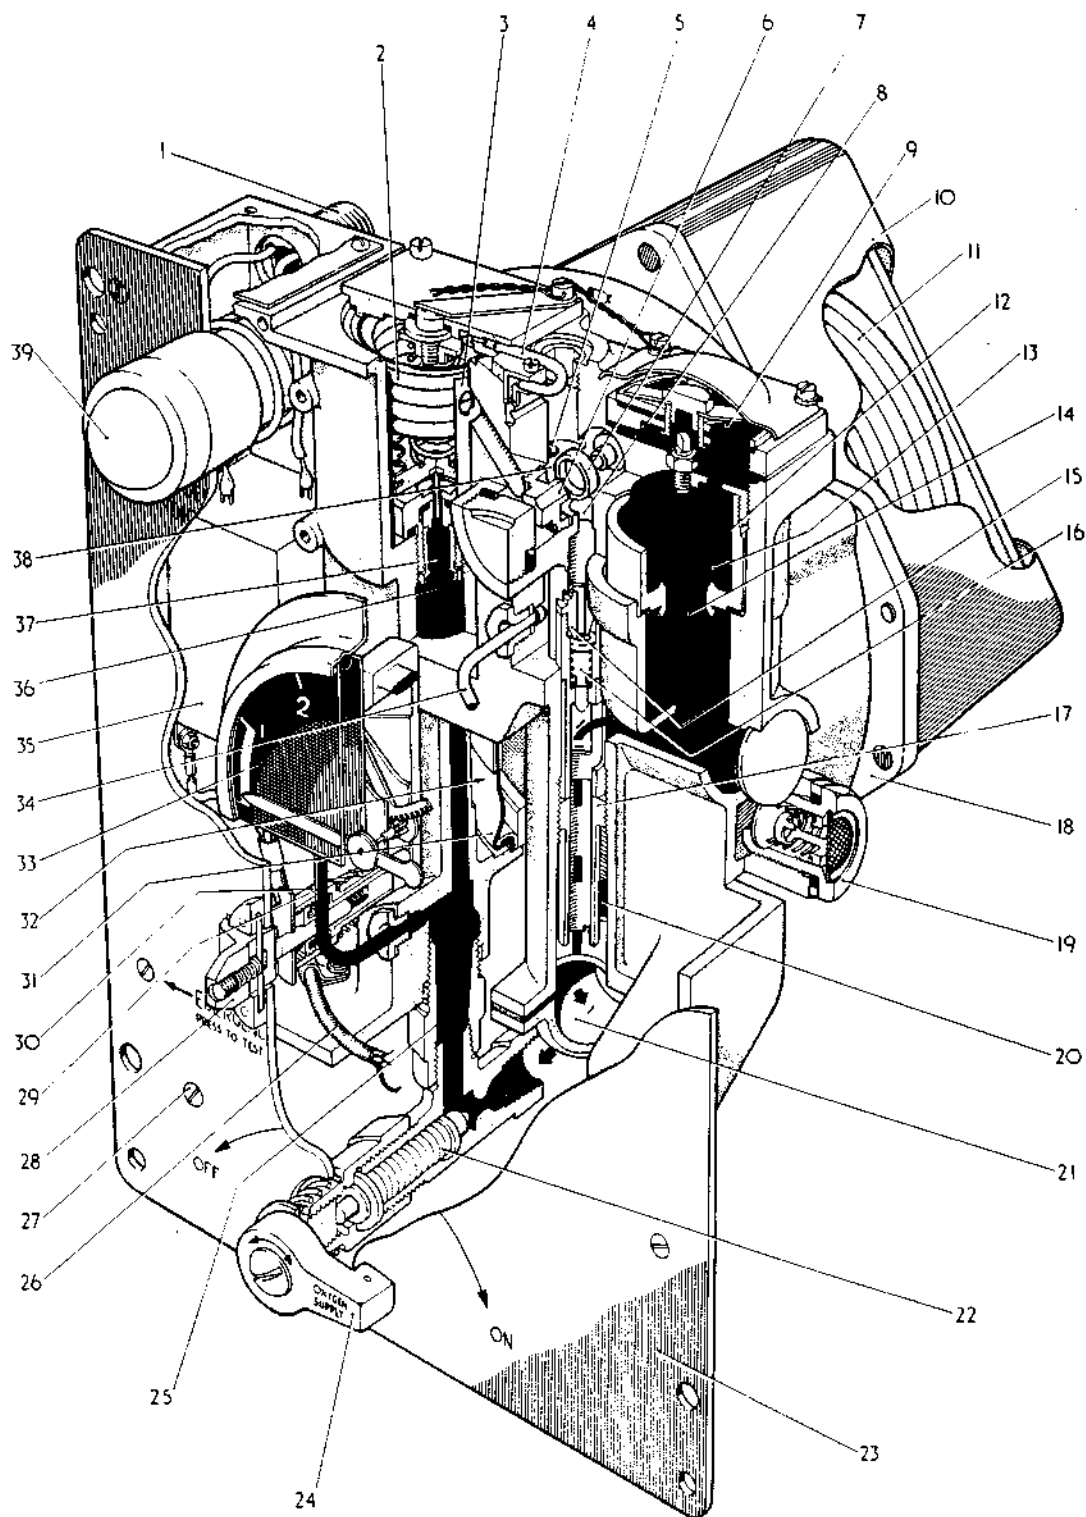

Fig.2. General arrangement
4. A typical regulator (fig. 2 and 3) of the Mk.17 series incorporates a mounting panel on which the magnetic flow indicator and the manual controls of the regulator are located, and a housing in which the regulator components are installed. Seven screws secure the panel to the housing in which the shut-off valve and pressure reducer, the demand valve, the air mix valve, the injector and mixing tube and the outlet elbow are installed in their respective chambers and passageways. Where necessary, gaskets and plugs are fitted to provide a seal. In the rear recess of the housing, a demand valve lever and a counterweight lever are provided; the latter connects with a diaphragm assembly which blanks off the recess to form the breathing chamber. An external lever bracket on which a safety pressure/pressure-breathing aneroid is mounted, secures the diaphragm to the housing and provides a seal. Protection of the aneroid is provided by a cover secured to the lever bracket. A manual safety pressure assembly and a pressure gauge, together with suppressors and electrical wiring, is installed in the front recess of the housing.
## Key to Fig. 2